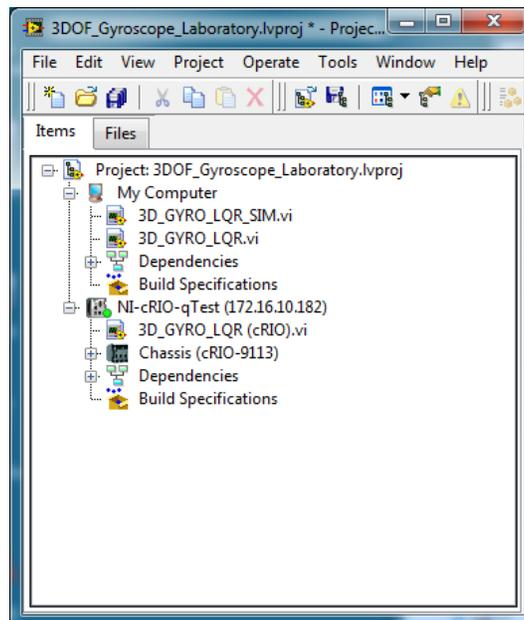

Figure 4.1: 3DOF Gyroscope LabVIEW project
2. Open the *3DOF\_Gyroscope.lvproj* LabVIEW project, shown in Figure 4.1.